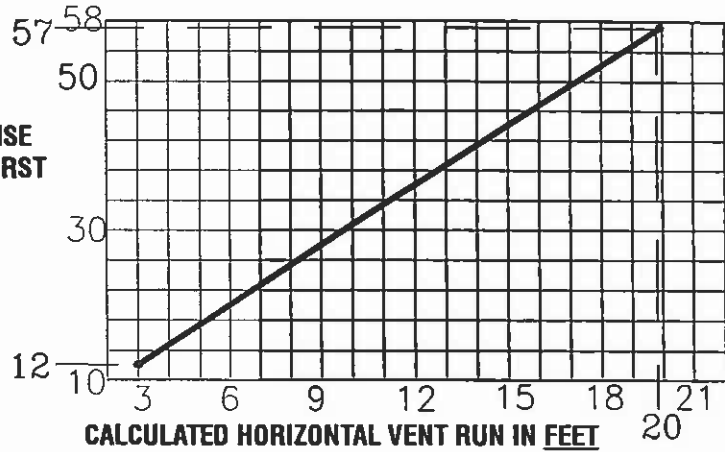

FIGURES 3a - d
*When venting, the horizontal run must be kept to a minimum of 11 inches or a maximum of 20 feet. If a 20 foot horizontal run is required, the fireplace must have a minimum vertical rise immediately off the fireplace of 57 inches. **FIGURES 3a-c**. When terminating vertically, the vertical rise is a minimum 34 inches and a maximum 34 feet above the fireplace. **FIGURE 2**.*